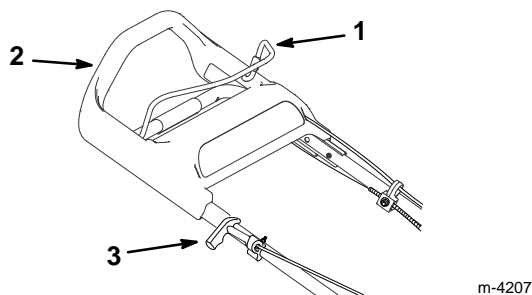

Figure 8
2. Hold the blade control bail against the upper handle (Fig. 8).
3. Pull the starter handle lightly until resistance is felt, then pull it sharply (Fig. 8). Allow the rope return to the handle slowly.